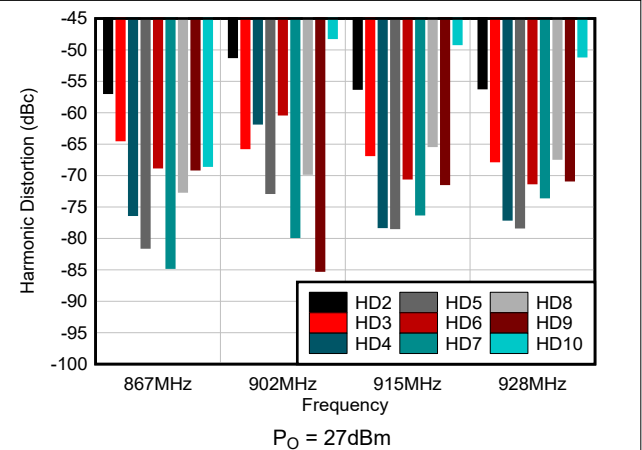

Figure 5-4. Harmonic Distortion Across Frequency
(1) No external filter on ANT pin. Refer to Figure 5-4 for higher order harmonic performance.
(2) Sum of currents into the VCC\_PA and VCC pins.